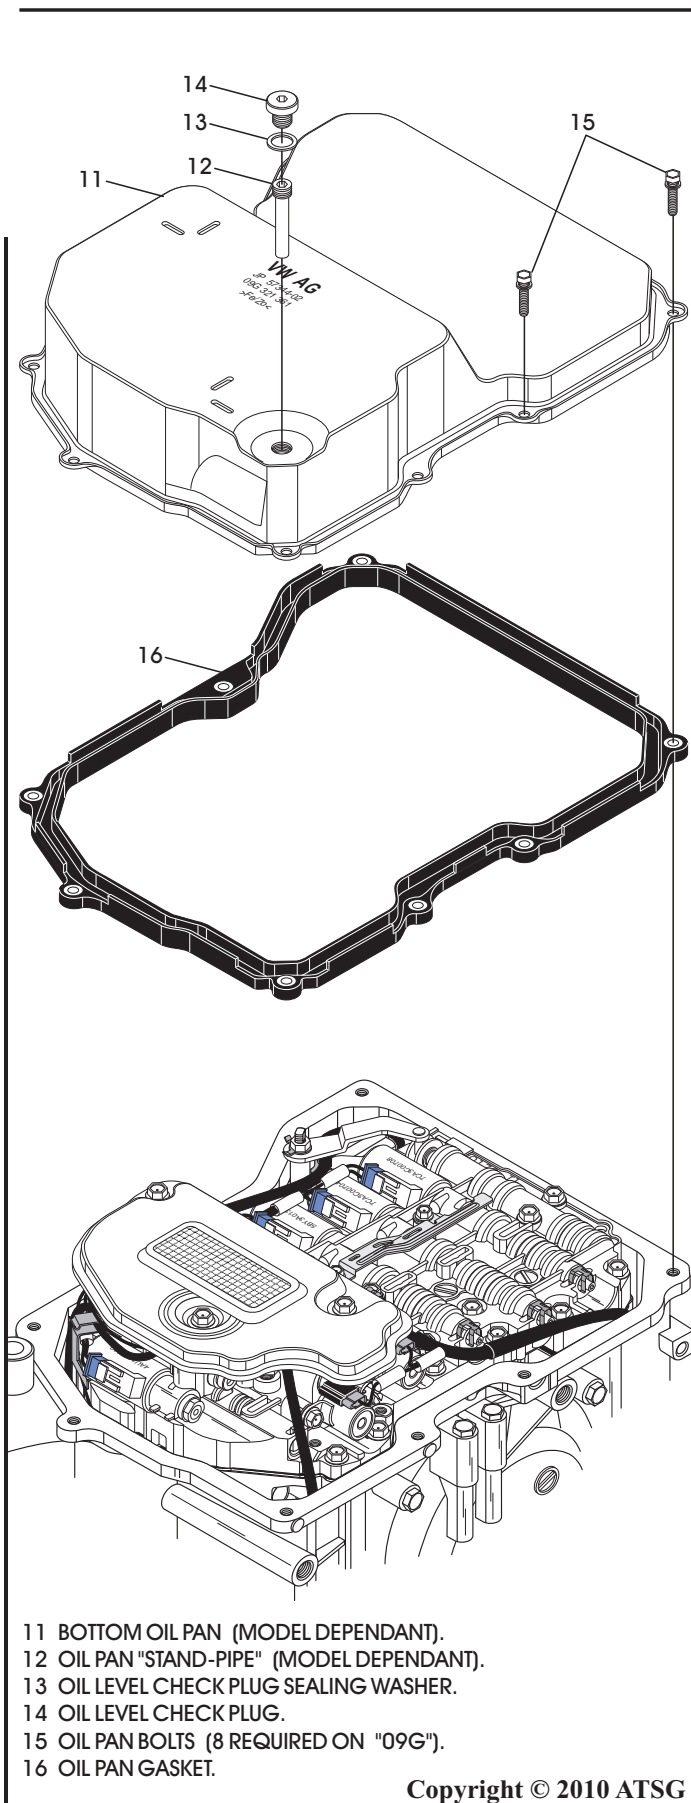

Figure 206
87. Install new oil pan gasket to oil pan, as shown in Figure 206.
88. Install oil pan and gasket on transaxle, as shown in Figure 206 and install oil pan bolts.